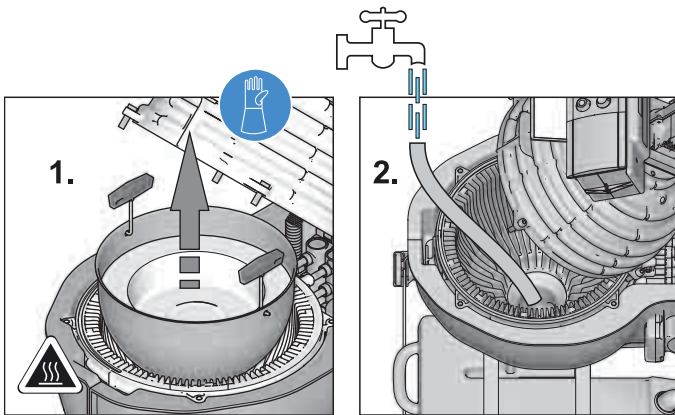

Fig. 4-12 Fill condensate box with water
- Open the boiler body and lift out the combustion chamber insert (see section 9.2.5); top up condensate pipe using a hose (see fig. 4-12) or,